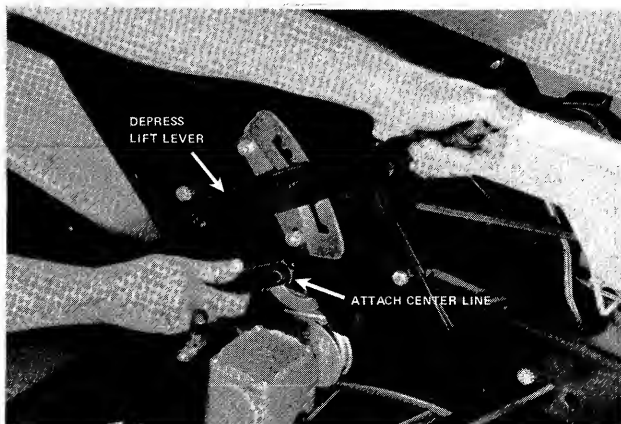

Fig. 6
10. With the lift lever depressed all the way attach the belt over the engine pulley. See Figure 6.